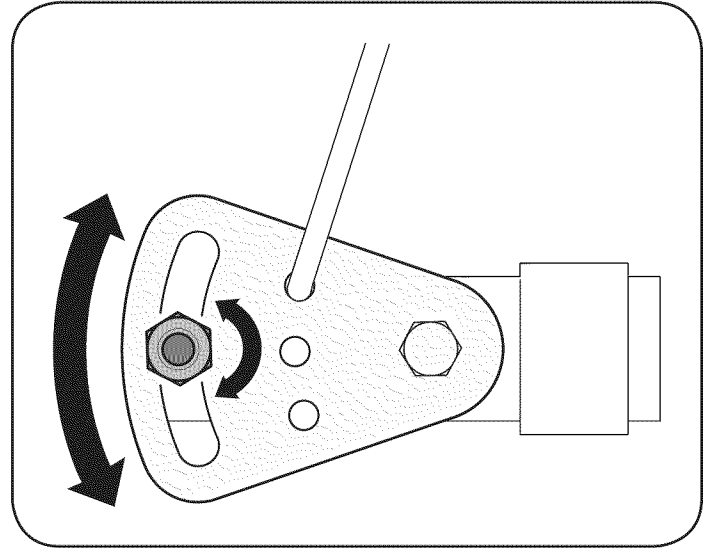

Figure 25
If the full range of speeds (forward and reverse) cannot be achieved, refer to the Figure 25 and adjust the shift cable as follows:
2. Loosen the hex nut on the shift cable index bracket. See Figure 25.